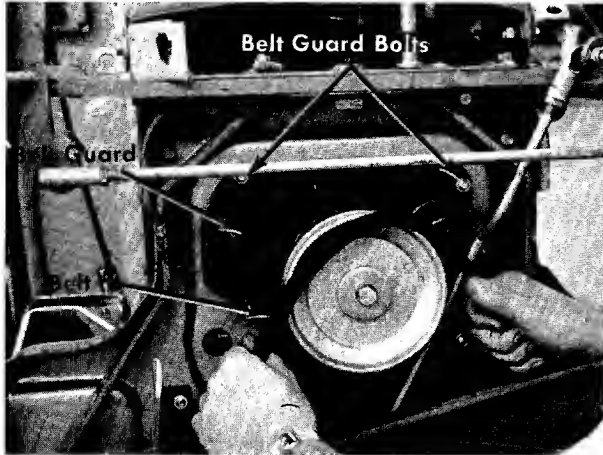

FIGURE 29. REMOVING MOWER BELT
- Step 3. Unhook the belt from the engine pulley. See figure 29.